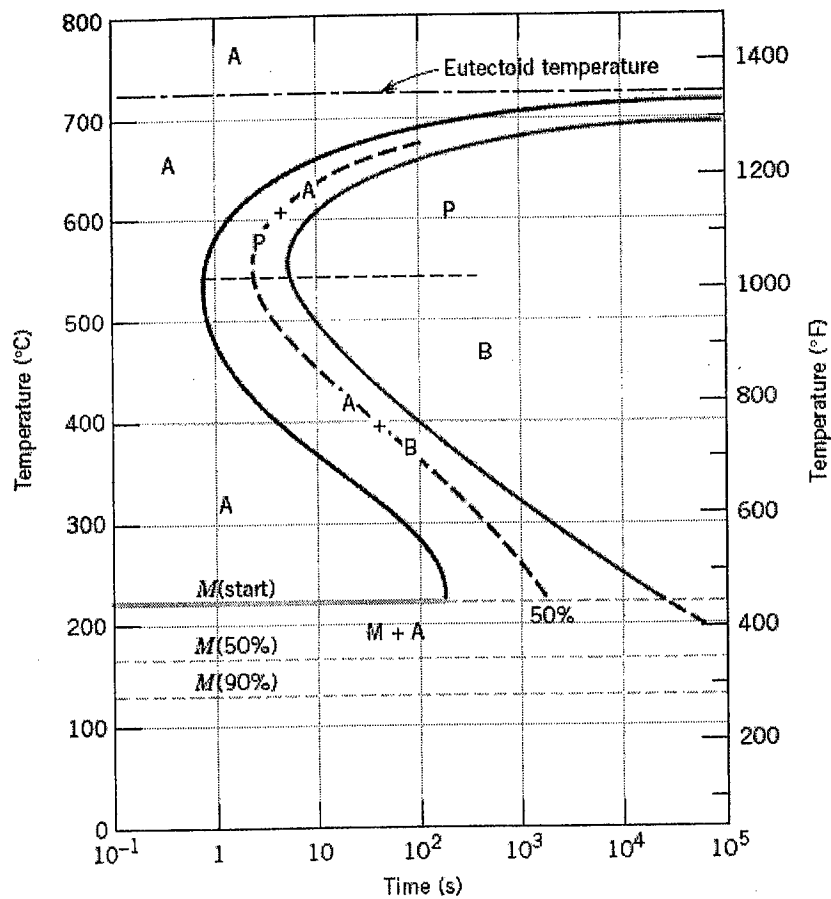

Fig Q2
- 02) Using the isothermal transformation diagram (Fig Q2) for an iron-carbon alloy of eutectoid composition, specify the nature of the final microstructure (in terms of microconstituents present and approximate percentages of each) of a small specimen that has been subjected to time-temperature treatments given below. In each case assume that the specimen begins at 760°C and that it has been held at this temperature long enough to have achieved a complete and homogeneous austenitic structure.